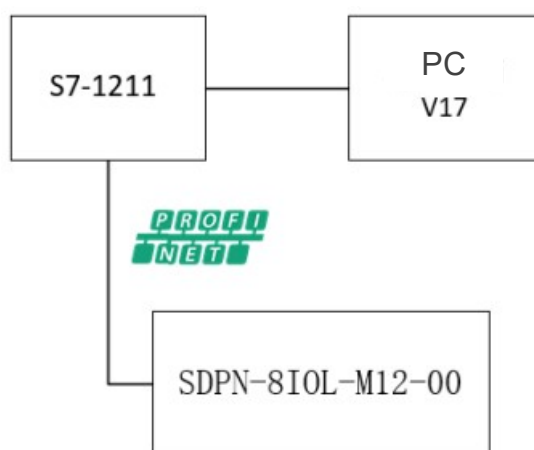

Figure 4-2-1-1 Communication connection diagram
1. The communication connection diagram is shown in Figure 4-2-1-1:
Open STEP7-MicroWIN SMART and select “GSDML Management” in the menu bar, as shown in Figure 4-2-1-2 below.
Select the network card and search for the device, select the module in the network and edit its device name, as shown in Figure 4-2-1-3 below.
Select "Tools" > "PROFINET" in the menu bar, select the PLC role as controller, as shown in Figure 4-2-1-4, add a master station and assign a device name (which must be consistent with the device name assigned in step 4 above) and an IP address..
Add a slave module, click the master, delete the port 1 object, add a slave module in the directory on the right, and finally click Generate, as shown in Figure 4-2-1-6 and Figure 4-2-1-7: